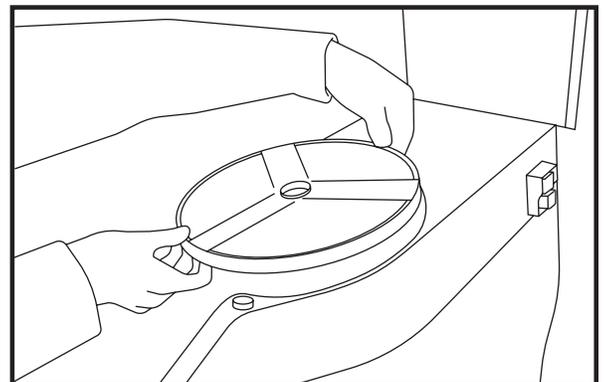

Fig. 3
3. Lift the disc by setting your other hand under the disc. (Fig. 3)